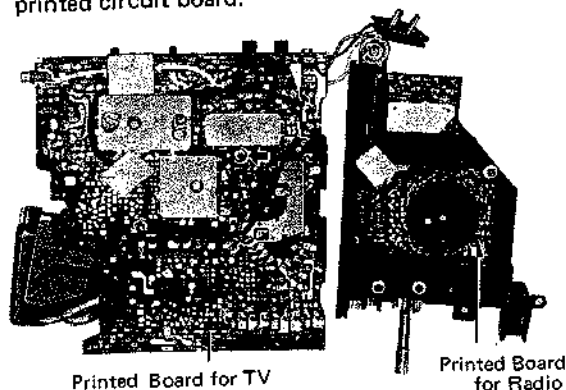

Fig. 7
2. Unscrew a screw indicated in Fig. 7, so that the TV printed circuit board is separated from the radio printed circuit board.